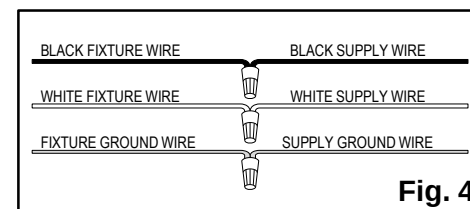

Fig. 4
3. Pull the power supply wires out from the **outlet box**. Connect the **black supply wire** to the **black fixture wire** using a **wire nut**. Connect the **white supply wire** to the **white fixture wire** using a **wire nut**. Connect the **fixture ground wire** and the **supply ground wire** together using a **wire nut**. Wrap all wire connections with electrical tape for a more secure connection. (Fig. 4)